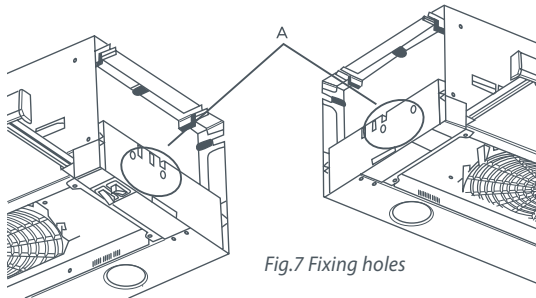

Fig.7 Fixing holes
- 2 Remove thin plastic skin (A) from each side fixing hole (see Fig.7). An 8 mm diameter drill bit is recommended.